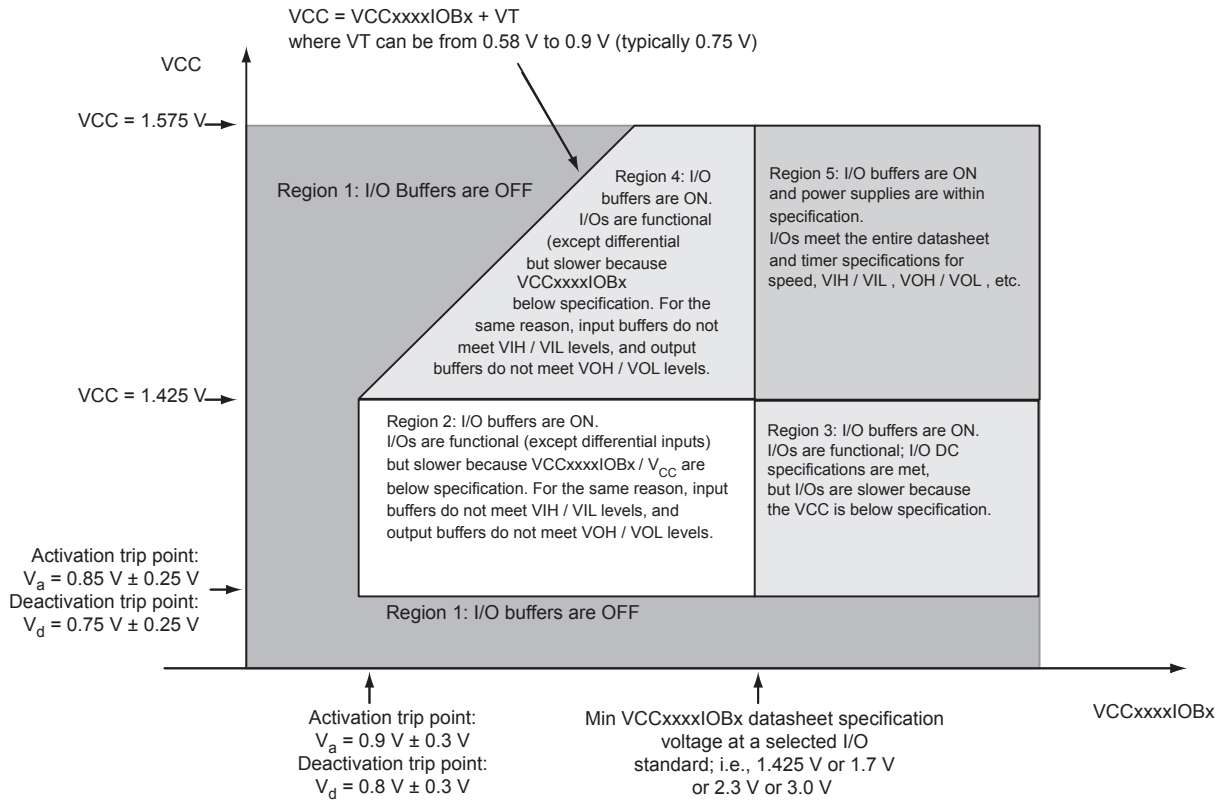

Figure 2-2 • I/O State as a Function of $V_{CCxxxxIOBx}$ and V_{CC} Voltage Levels
Sophisticated power-up management circuitry is designed into every SmartFusion cSoC. These circuits ensure easy transition from the powered-off state to the powered-up state of the device. In addition, the I/O will be in a known state through the power-up sequence. The basic principle is shown in Figure 2-2 on page 2-6.
1. VCC and VCCxxxxIOBx are above the minimum specified trip points (Figure 2-2 on page 2-6).
The Microsemi SoC Products Group recommends using monotonic power supplies or voltage regulators to ensure proper power-up behavior. Power ramp-up should be monotonic at least until VCC and VCCPLLx exceed brownout activation levels. The VCC activation level is specified as 1.1 V worst-case (see Figure 2-2 on page 2-6 for more details).